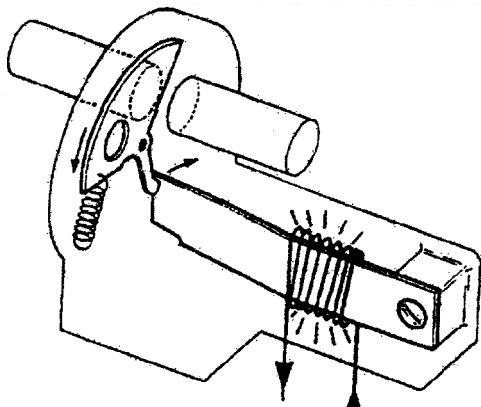

Fig.2.10B
The disc is turned by a bi-metal (B), which responds to both ambient temperature (i.e. the coolant temperature) or to the heating wire (H) coiled around it. This coil is connected to the fuel pump electrical circuit; therefore the coil starts to heat the bi-metal and begins to close the valve as soon as the engine cranks and runs (see fig. 2.10B).